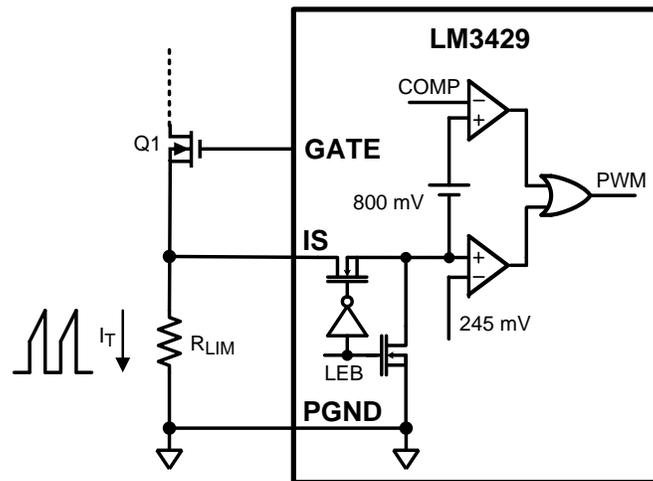

Figure 17. Current Sense / Current Limit Circuitry
The LM3429 achieves peak current mode control using a comparator that monitors the MosFET transistor current, comparing it with the COMP pin voltage as shown in Figure 17. Further, it incorporates a cycle-by-cycle overcurrent protection function. Current limit is accomplished by a redundant internal current sense comparator. If the voltage at the current sense comparator input (IS) exceeds 245 mV (typical), the on cycle is immediately terminated. The IS input pin has an internal N-channel MosFET which pulls it down at the conclusion of every cycle. The discharge device remains on an additional 250 ns (typical) after the beginning of a new cycle to blank the leading edge spike on the current sense signal. The leading edge blanking (LEB) determines the minimum achievable on-time ( $t_{\text{ON-MIN}}$ ).